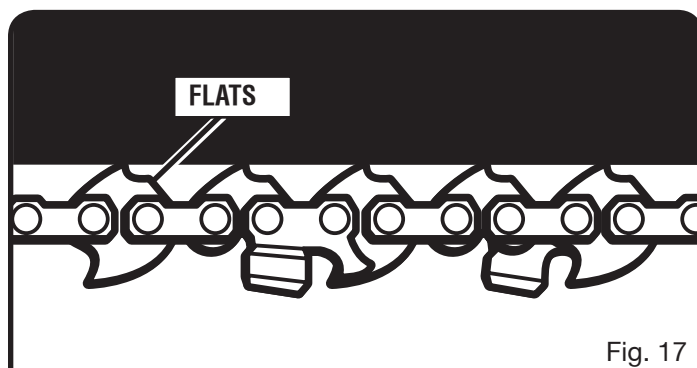

Fig. 17
See Figures 17 - 18.
- Chain must be re-tensioned whenever the flats on the drive links hang out of the bar groove as shown in fig. 17.